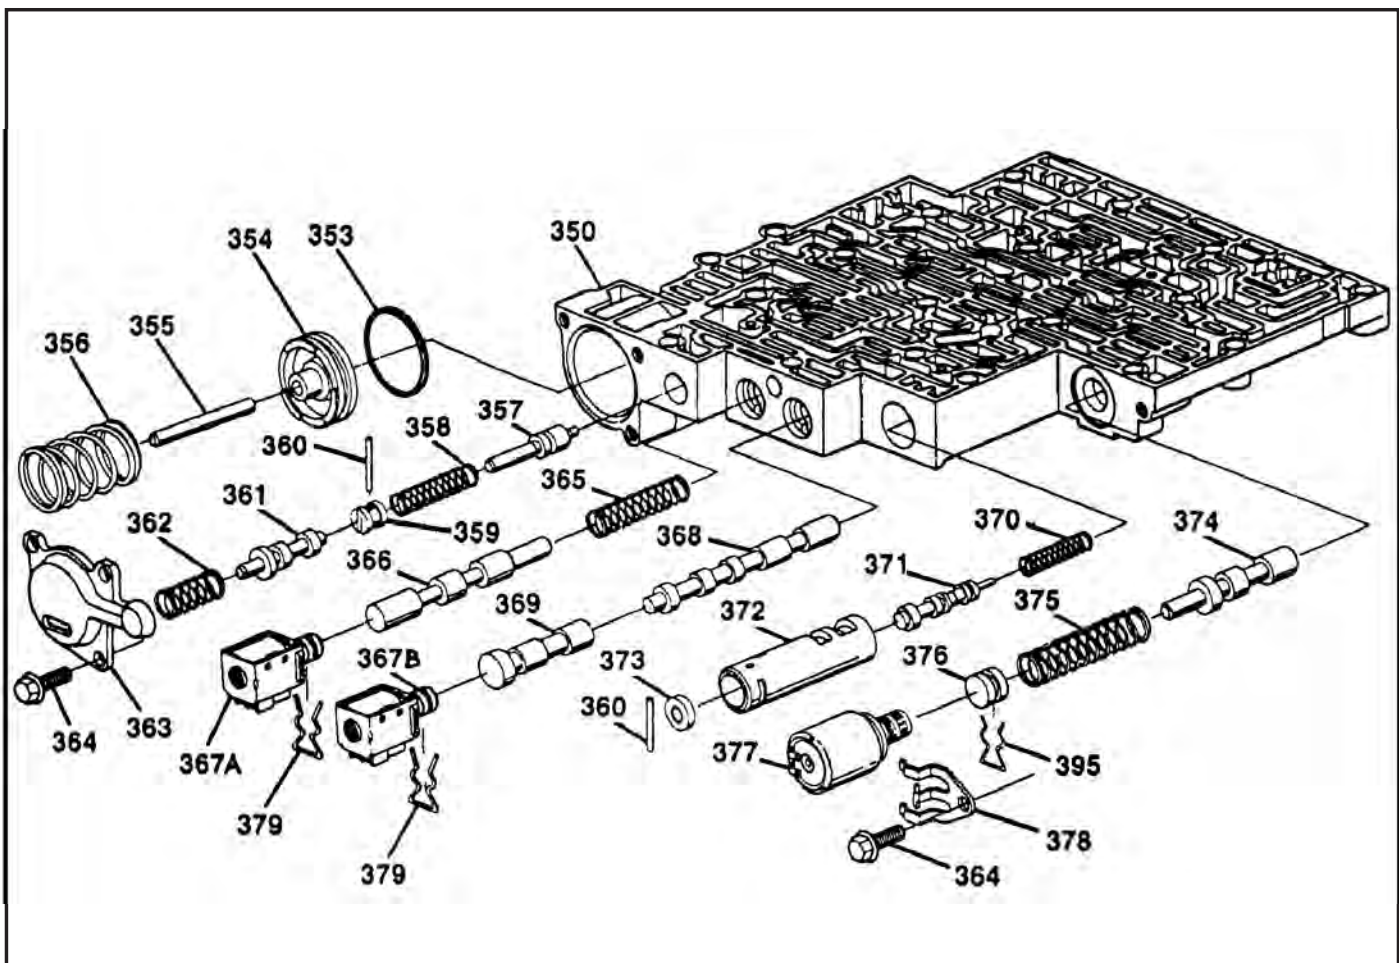

Figure 1
CORRECTION: There is now available a new calibration service package consisting of a 1-2 accumulator valve, valve spring, and 1-2 accumulator valve bushing for the valve body. These are items 370, 371, and 372, as shown in Figure 1 below. This new service package is available under OEM part number 24202698.